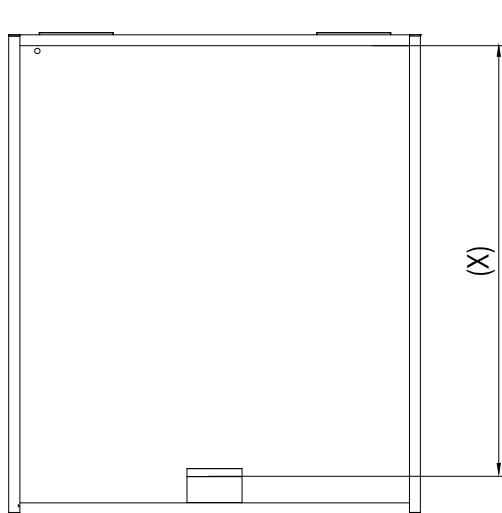
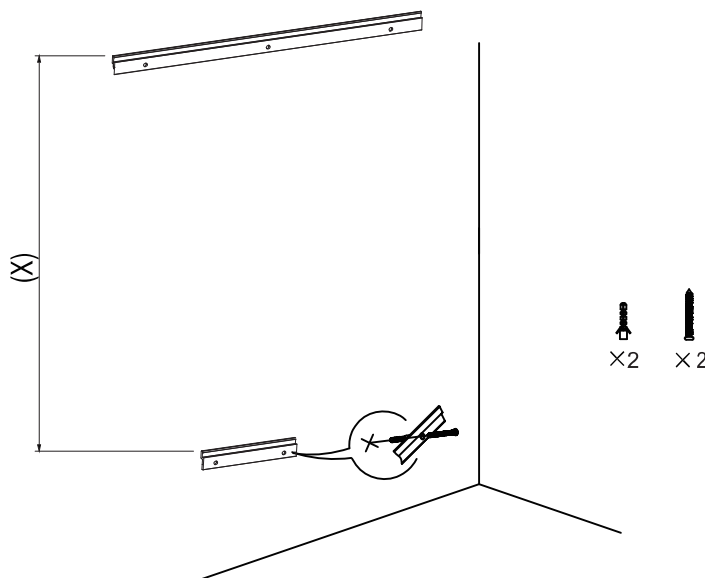

Fig. 3
Fig. 4
2.1 Measure the distance between the top of two aluminium alloy bars with tape measure is(x) MM(Fig.3) Repeat the operation as shown in 1.2 - 1.4(Fig.4)